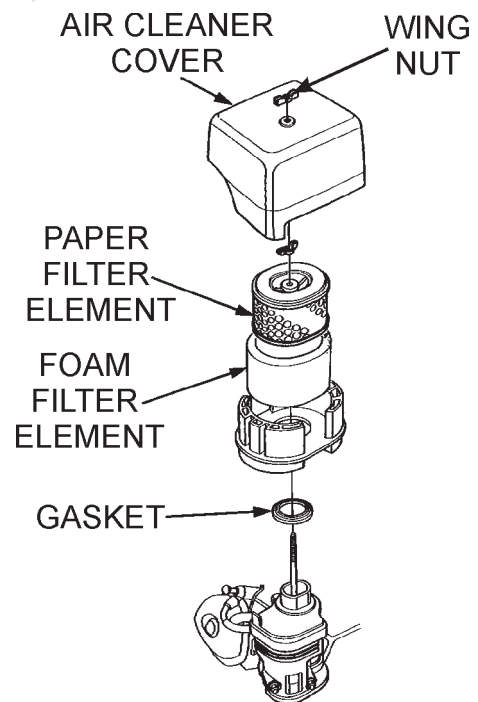

Figure 26. Engine Air Cleaner
1. Remove the air cleaner cover and foam filter element as shown in Figure 26.
2. Tap the paper filter element (Figure 26) several times on a hard surface to remove dirt, or blow compressed air [not exceeding 30 psi (207 kPa, 2.1 kgf/cm2)] through the filter element from the air cleaner case side. **NEVER** brush off dirt. Brushing will force dirt into the fibers. Replace the paper filter element if it is excessively dirty.